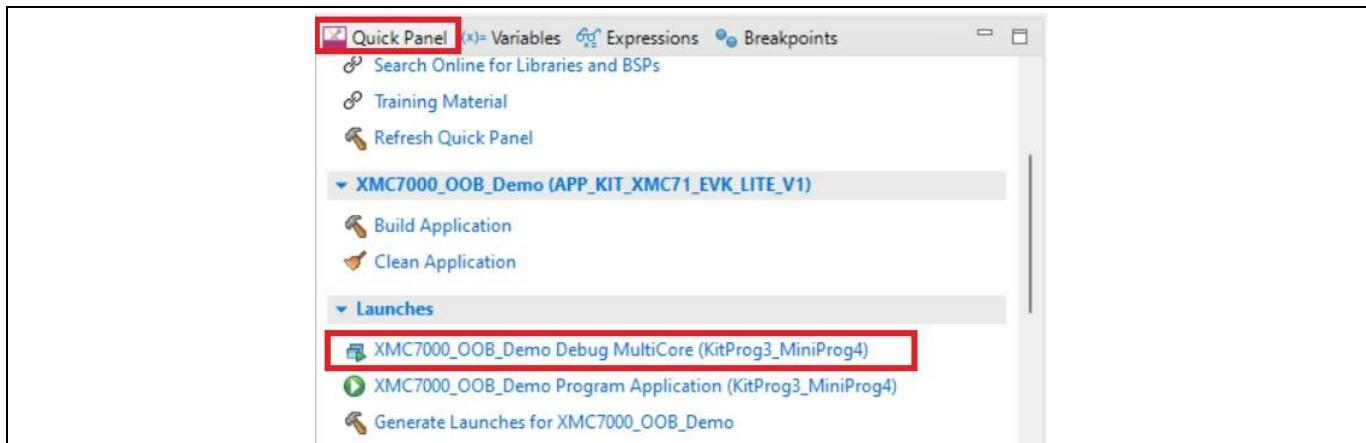

Figure 13 Debugging in ModusToolbox™
- ModusToolbox™ software has an integrated debugger. To debug a XMC7100D application, in the Project Explorer, select <App_Name> project. In the Quick Panel, scroll to the **Launches** section and click the **<App_Name> Debug (KitProg3_MiniProg4)** configuration as shown in Figure 13. For more details, see the “Program and debug” section in the Eclipse IDE for ModusToolbox™ user guide.